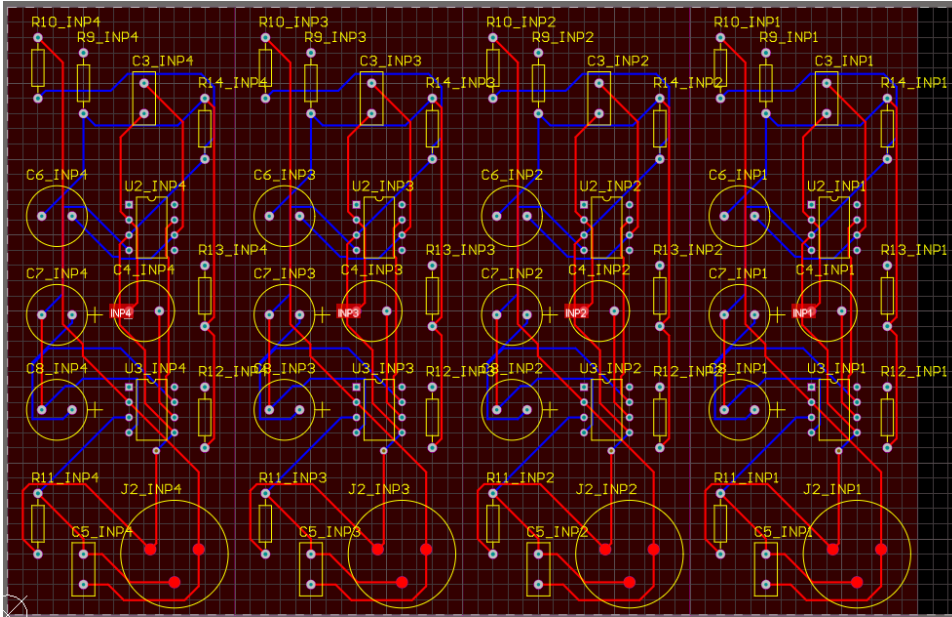

Figure 14. Rooms INP1, INP2 and INP3 copied from source room INP4
- e) The rooms should be arranged similar to what is shown in Figure 14 below. A gap/space could have been added to the rooms if desired.